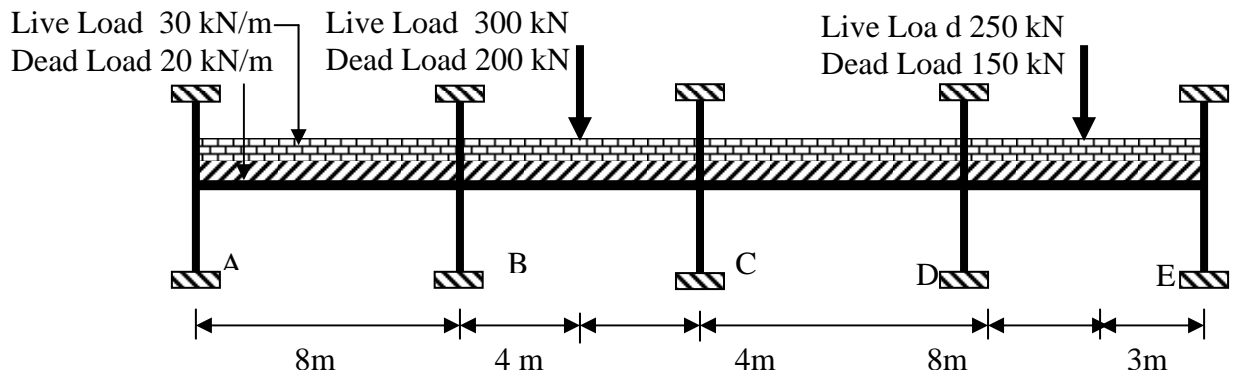

Figure 3
- c) Figure 3 shows a continuous beam forming part of the rigid frames. Determine the maximum moment at each supports using two-cycle moment distribution method. Ignore the calculation for the maximum mid-span moments.